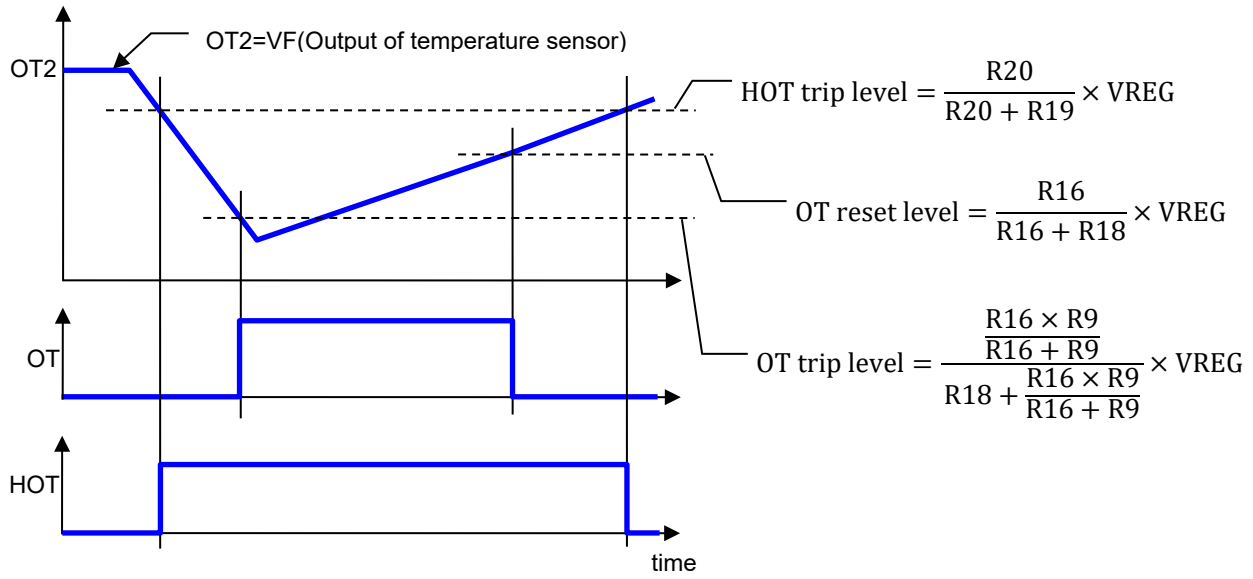

Figure 5 Over-temperature hysteresis operation
The over-temperature (OT) protection circuit diagram and its operation are shown in Figure , Figure 5 respectively. The bias current for the on-chip temperature sensor is determined by a resistance connected to Pin 1 of the gate driver IC M8160xJFP (R12 in25). Current output I_F from OT2 is represented by $I_F = \frac{2.35}{R_{12}} \times 4$. In the driver board, $R_{12}=47k\Omega$ and $I_F = \frac{2.35}{47k} \times 4 = 200\mu A$.